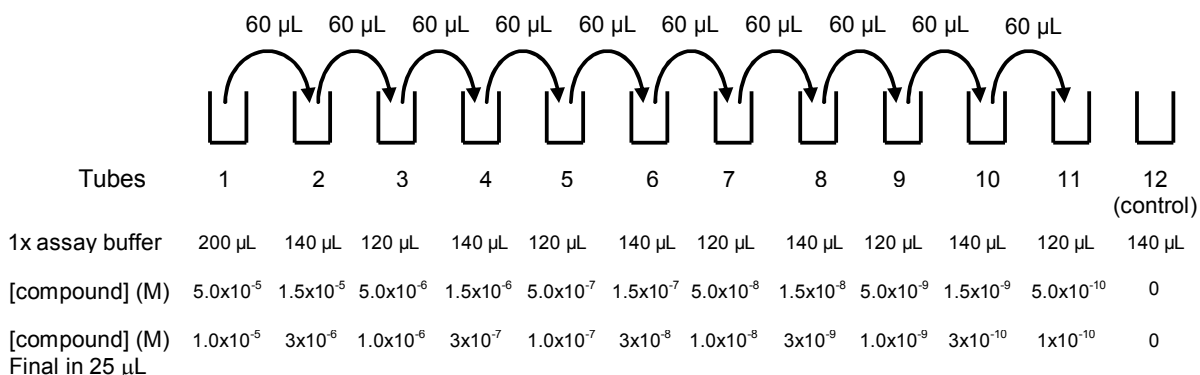

Figure 6. Serial Compound Dilutions in Assay Buffer.
- Serially dilute compounds to yield concentrations ranging from 5×10^{-5} M (50 μ M) to 5×10^{-10} M (500 pM) using halflog dilutions, as illustrated in Figure 6. Include a buffer control (buffer only; identified as tube #12).
- Serially dilute compounds to yield concentrations ranging from 5×10^{-5} M (50 µM) to 5×10^{-10} M (500 pM) using halflog dilutions, as illustrated in Figure 6. Include a buffer control (buffer only; identified as tube #12). If desired, a control curve can also be generated using D-biotin (Fig. 8).